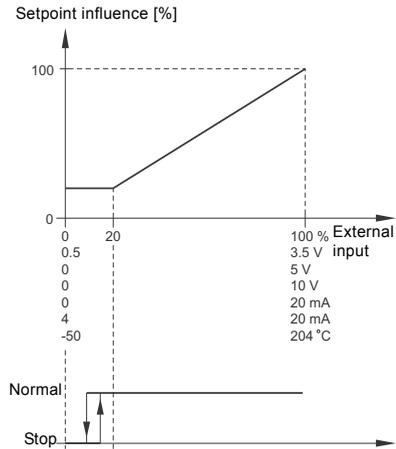

Fig. 65 Linear with Stop
- In the input signal range from 20 to 100 %, the setpoint is influenced linearly. If the input signal is below 10 %, the pump changes to operating mode Stop. If the input signal is above 15 %, the operating mode is changed back to Normal. See fig. 65.